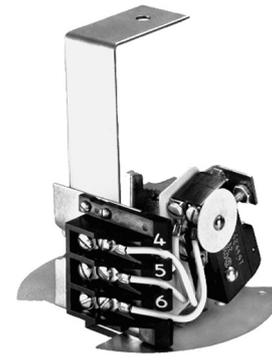

Figure 4
- **Series S** switches are general purpose with a maximum liquid temperature rating of +290 °C (+550 °F), or designed for DC current applications with a maximum liquid temperature of +120 °C (+250 °F), used only in model B40 units, see Figure 4. (= Grp IV switch mech)